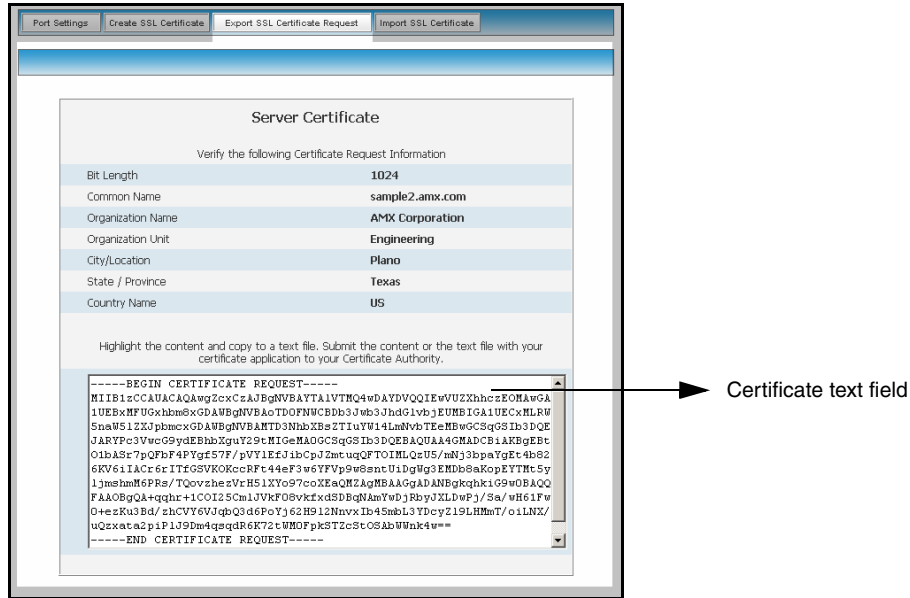

FIG. 65 Export SSL Certificate dialog
2. Click the **Export Certificate Request** button to display the certificate text file within the Server Certificate page (FIG. 65).